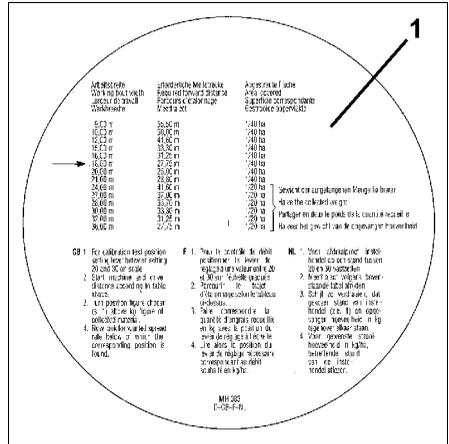

Fig. 36
- Take from table (Fig. 36/1) for the desired working width **18 m** the required test distance of **27,75 m** for **1/40 ha** area to be spread.